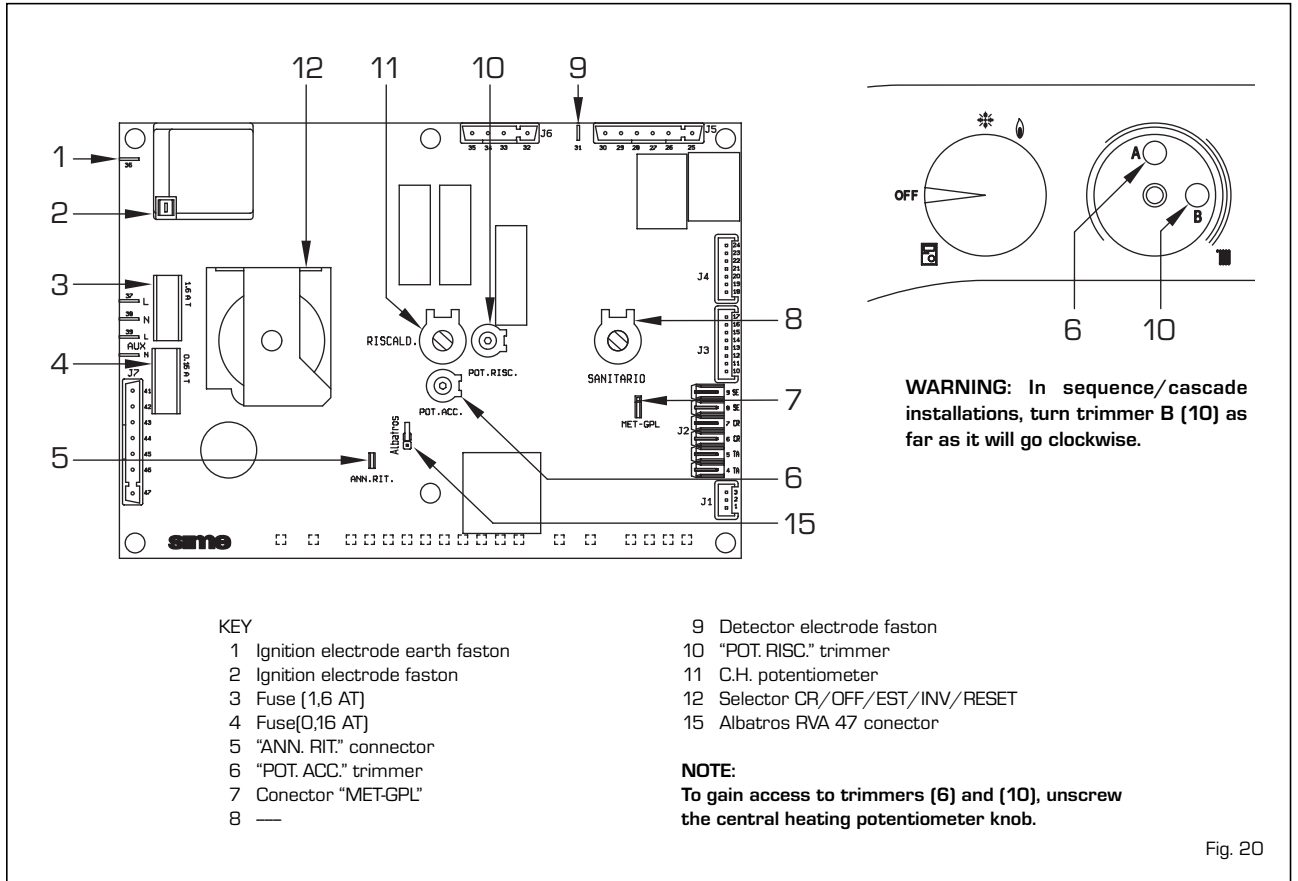

Fig. 20
- "POT. RISC." trimmer (10 fig. 20)
- "POT. ACC." trimmer (6 fig. 20)
- "MET-GPL" connector (7 fig. 20)
- "ANN. RIT." connector (5 fig. 20)
- "Albatros" connector (15 fig. 20)
To adjust boiler heat output for heating purposes, i.e., modifying the setting made at the factory which is approximately 17 kW, use a screwdriver to adjust the heating heat output trimmer (10 fig. 20).